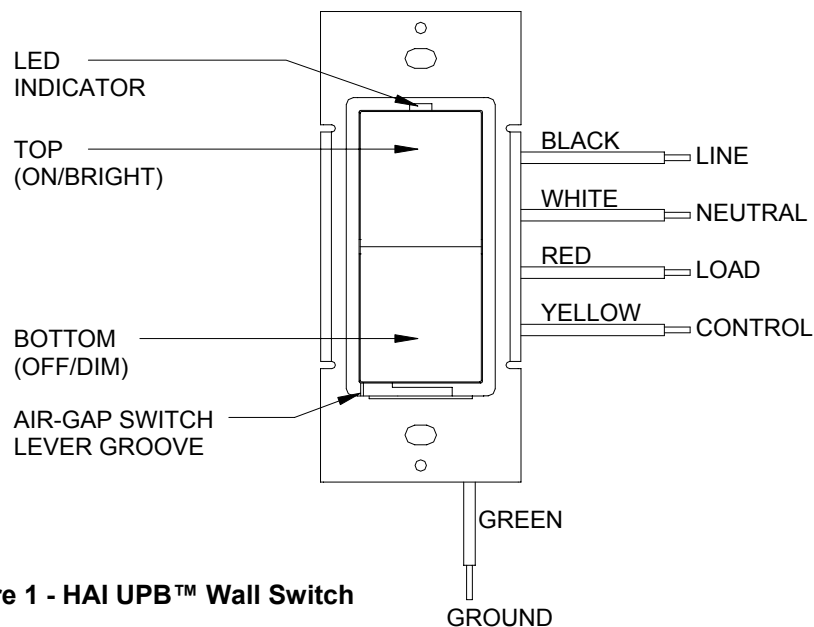
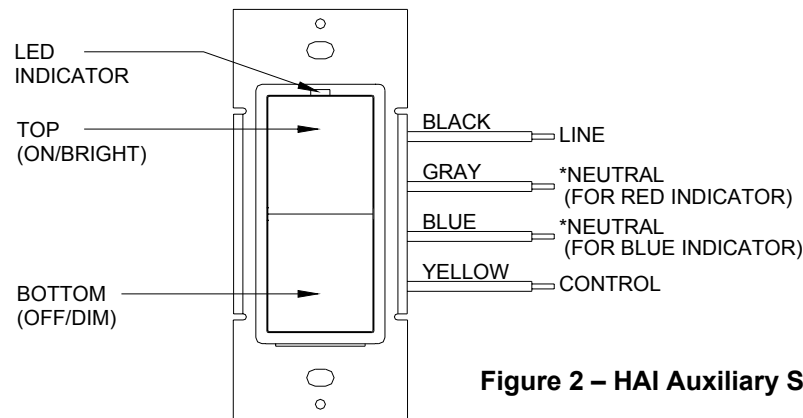

Figure 1 - HAI UPB™ Wall Switch
Figure 2 – HAI Auxiliary Switch
The HAI UPB™ Wall Switch (Figure 1) allows for local control of lighting by using the Decora-style rocker switch. It also incorporates the UPB™ two-way powerline communication technology that gives it the ability to be remotely controlled by UPB™ compatible controllers. The HAI UPB™ Wall Switch is also capable of transmitting UPB™ messages (including current light level) when the rocker switch is turned on, turned off, brightened, or dimmed.
The 37A00-1 HAI Auxiliary Switch (Figure 2) is an optional companion device used with the HAI UPB™ Wall Switch for multi-way circuits. The HAI Auxiliary Switch has a Decora-style rocker switch that controls the lighting load in the exact same manner as the Decora-style rocker switch on the HAI UPB™ Wall Switch.
1. Refer to Figures 1 and Figure 2 to determine the wire colors for each connection.
The HAI UPB™ Wall Switch has an air-gap switch lever that will remove all power from the load for safe switch installation and light bulb replacement. To activate the air-gap switch, using your fingernail, pry open the lever at the groove (Figure 1). Swing the lever fully open so that it is perpendicular to the bottom rim (Figure 4). After servicing, push the lever fully closed so that it is parallel to the bottom rim. The lever must be pushed fully closed for normal operation.